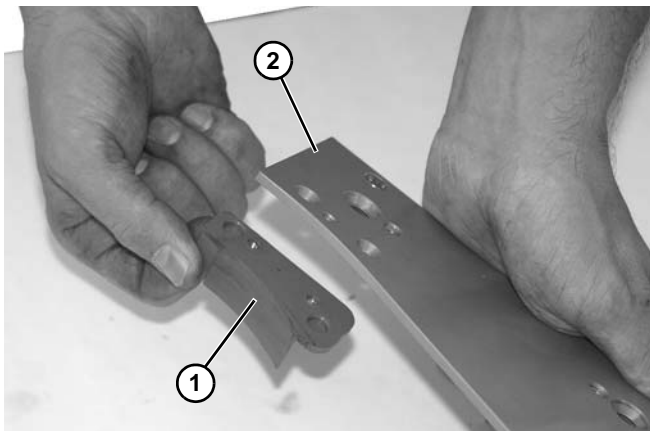

Figure 126
5. Remove lower retaining guide (Figure 126, item 1) from drive plate (Figure 126, item 2).